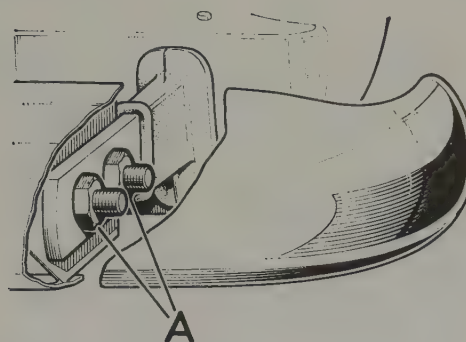

Fig. 12.36. Rear bumper bolts (A) (Three thousand five models)
- 1 Undo and remove the six crosshead set screws that secure the rear valance to the bodyshell. Also undo and remove the two special bolts "A" (Fig.12.36) that secure the valance to the rear wing.